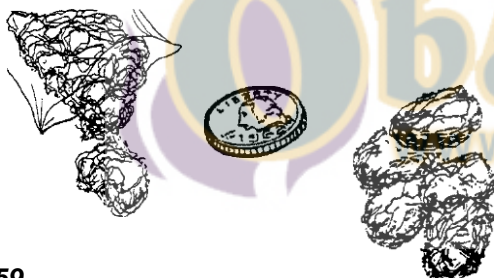

Figure 59
5. **Placement of Glowing Embers** - Separate the Embers (rockwool) into pieces about the size of a quarter (see **Figure 59**). Keep the pieces fluffed up, not matted. Distribute these pieces over the surface of the burner, as shown in **Figure 60**. Do not use more than is necessary. Ensure that the main burner ports remain uncovered by the ember material.